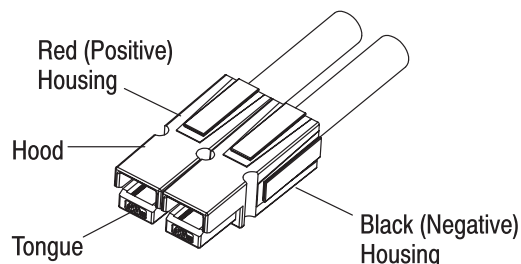

Figure 10
Standard direct current (DC) connectors recommended by the Radio Amateur Civil Emergency Service (RACES) must be stacked as shown in Figure 10. Red (as positive) and black (as negative) are the recommended housing colors.